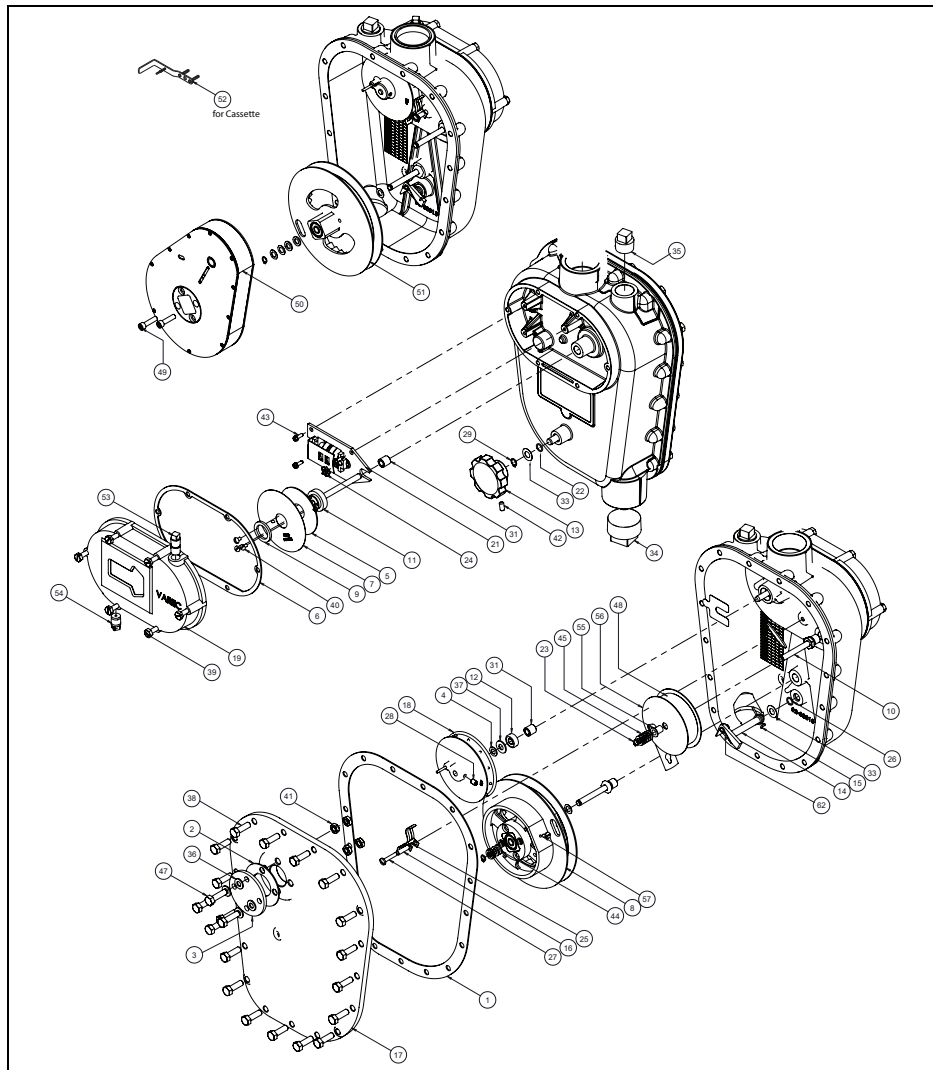
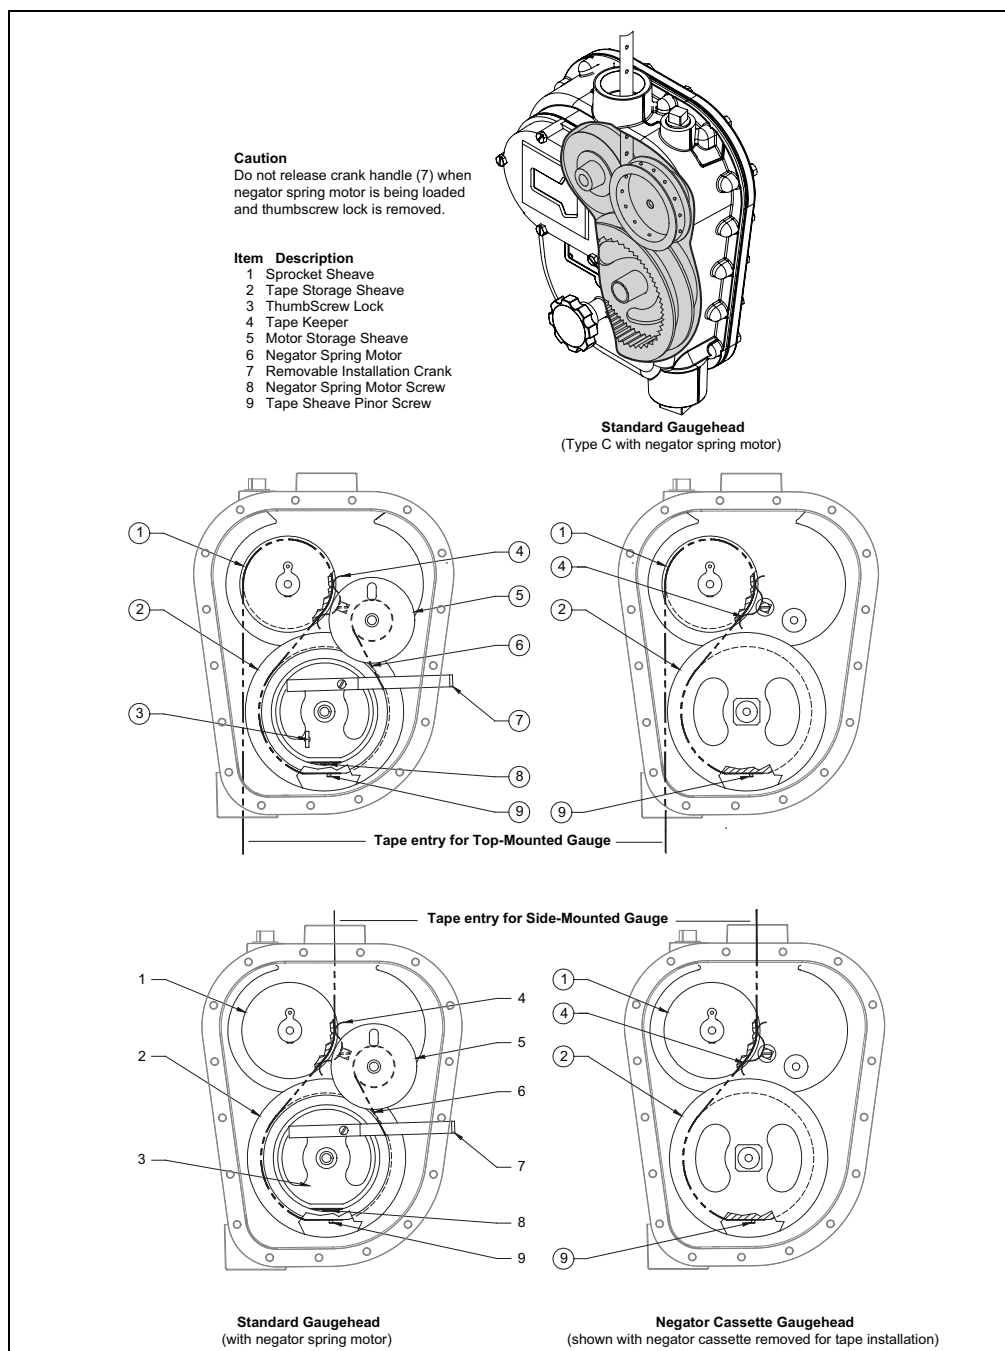

Figure 6-1: 2500 ATG (Type C) Gauge Head Spare Parts
Figure 6-2: Tape Routing
Figure 6-1 is key to understanding the disassembly/reassembly procedure. The small numbers in parentheses (for example, (12)), refer to the item numbers in this figure. References in the following procedures are directed to this figure, unless otherwise indicated.
13. Unwind the motor spring onto the motor storage sheave (Figure 6-2).
Unless otherwise labeled, numbers in parentheses, (12) for example, refer to the item callout numbers on Figure 6-1 or Figure 6-2.